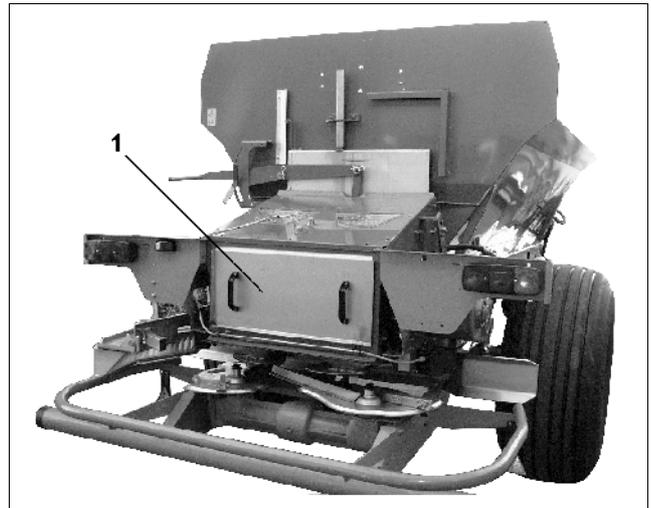

Fig. 43
- For this slacken the hex. bolts M10 on the rear flap (Fig. 43/1) and unhook the rear flap.